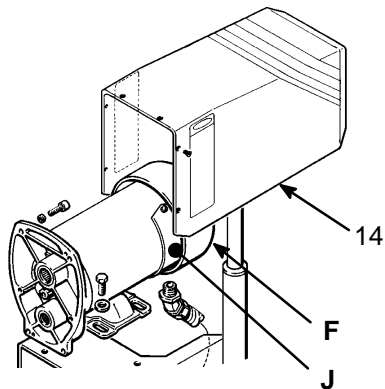

Fig 23-1
1. Remove the motor shield (14). Remove the inspection covers (J) and gaskets (K). See Fig 23-1.